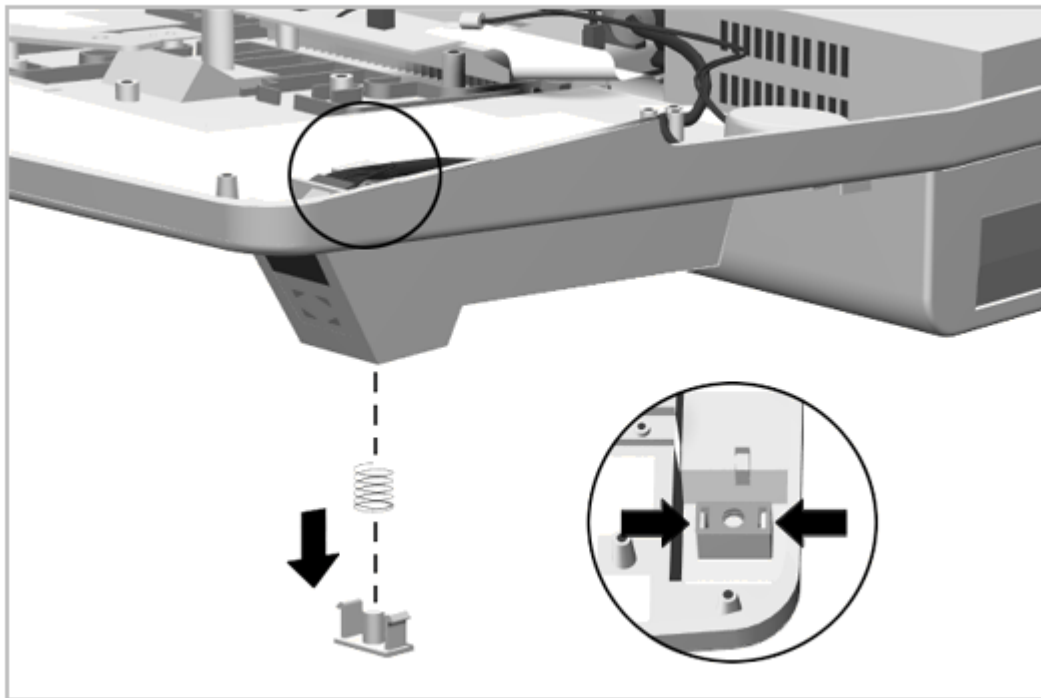

Figure 6-30. Removing the Monitor Support Cover Cap
3. Squeeze the tabs and allow the cap to drop out (Figure 6-30).